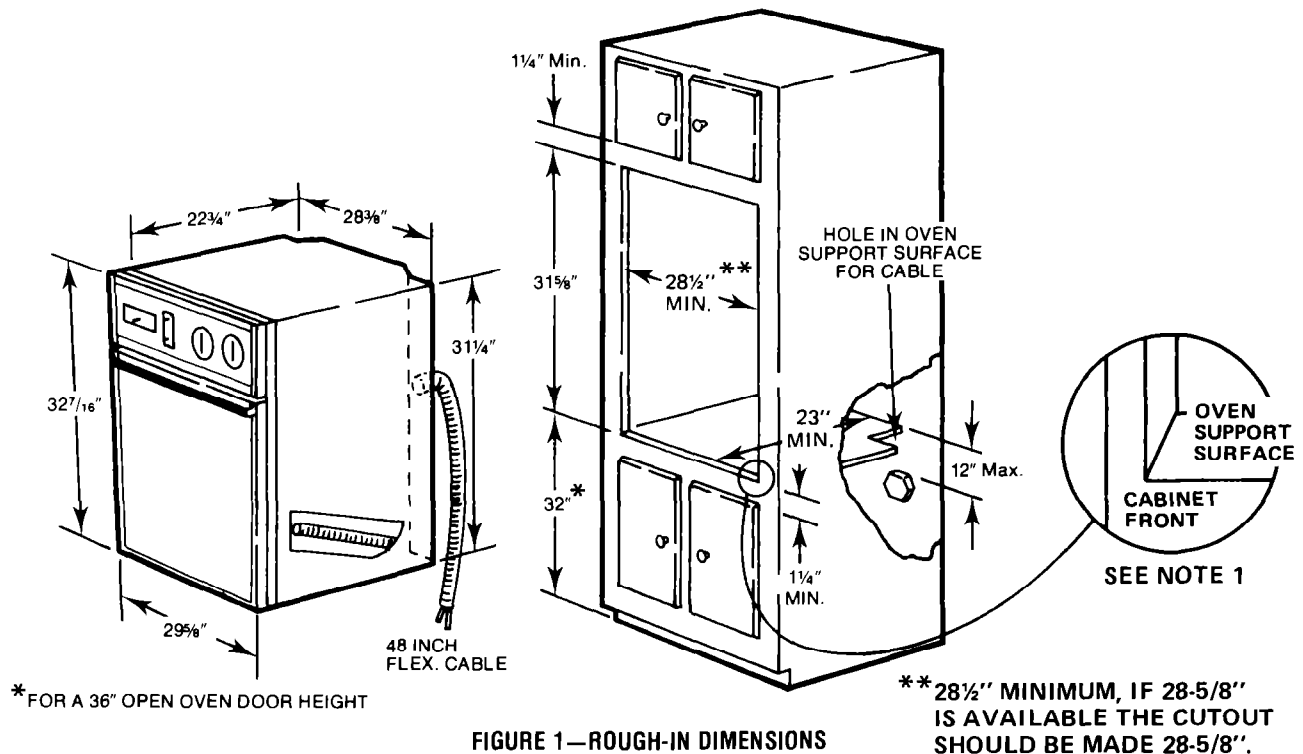

FIGURE 1—ROUGH-IN DIMENSIONS
Refer to Figure 1 for the dimensions of the oven and the space necessary to receive the oven. The oven support surface may be solid plywood or similar material but the contact surface must be level from side to side and from front to rear. This surface is 3/4" below the open door height.
- B. The appliance should be connected to the fused disconnect (or circuit breaker) box through flexible armored or non-metallic sheathed cable. The flexible armored cable extending from the appliance should be connected directly to the junction box. The junction box should be located as shown in Figure 1 so that as much slack as possible remains in the cable between the box and the appliance so that it can be moved if servicing is ever necessary.